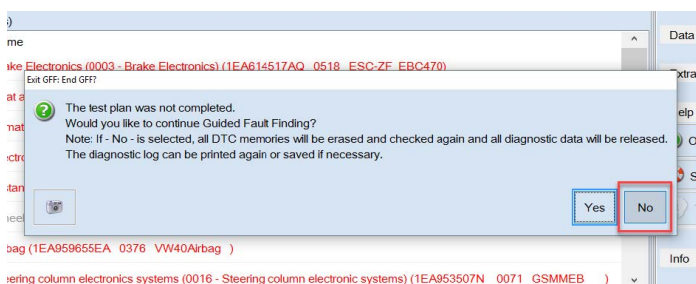

Figure 22: Do not continue GFF
- When prompted to continue GFF select “NO” (see figure 22). The fault memory will then be automatically deleted.
- When prompted to continue GFF select “NO” (see figure 22 above). The fault memory will then be automatically deleted.